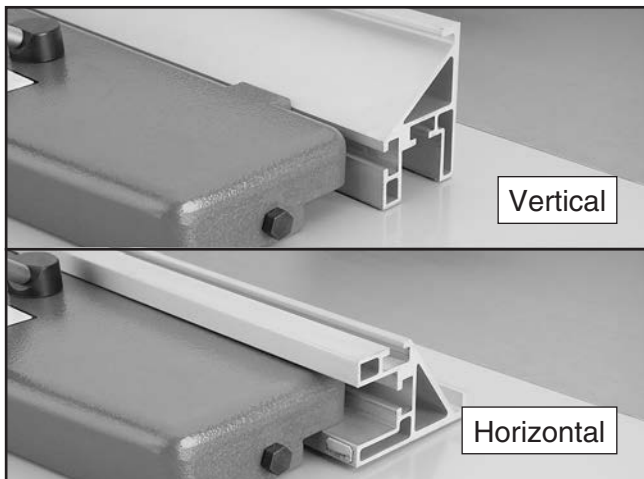

Figure 86. Rip fence positions.
3. Place the fence in the vertical position for larger workpieces, or in the horizontal position for angled cuts and for small workpieces (see **Figure 86**).